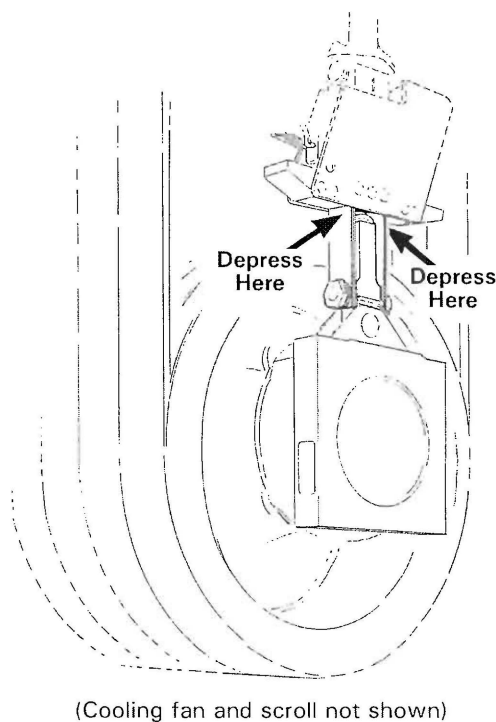

FIGURE 2-6A ACTUATOR SWITCH TEST
- a. Refer to Figure 2-6A. With MASTER switch on and actuator fully engaged, depress column springs on one side of actuator until springs snap inward (use large screwdriver or similar tool with several layers of tape over end to protect actuator). Hold springs inward for at least one second. Actuator motor should not run. If motor starts, allow motor to run approximately two seconds, then release pressure on column springs. Depress and hold column springs again. If motor starts again, opposite spring switch does not function properly. _____
2.410 Inspection Procedures and Checklist (cont'd)**7. Open Cowling Doors (7A), Remove Tailcone Cowling (7B) & Mast Fairing (9)**